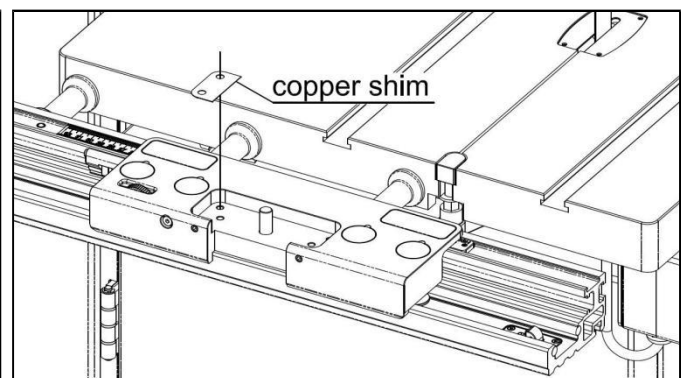

Fig. 10-12
2. Place copper shims on the left or right side of the groove in the slide block to adjust the squareness. Each set includes four 0.05 mm-thick shims; stackable. One layer adjusts squareness by approx. 0.05 mm (see Fig. 10-12).